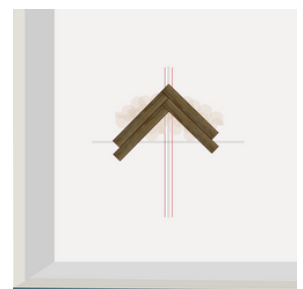

Fig. 4
- Place each plank carefully into the adhesive, forming a 90° angle for herringbone or the desired pattern. **(Fig. 4)**